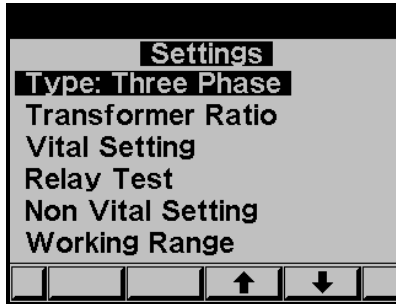

Figure 4.2 **Settings**.
2. The **Setting** screen appears. (Please see figure 4.2).